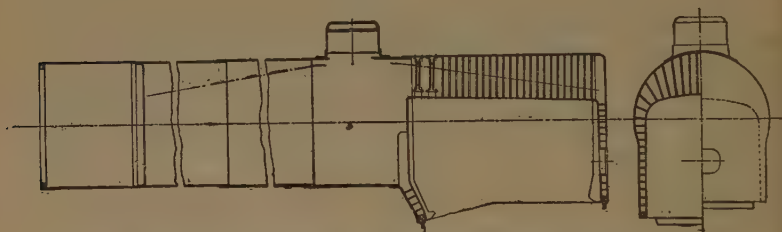

Fig. 27. Showing Fire Box with Radial Sling Stays.
A. Like the old ones, but with wider grate, as in Fig. 27, with 3,000 square feet of heating surface.
A. There is an inner and an outer shell, forming a double bottomless box of boiler-plate, and having in front, through both walls, a doorway closed by a furnace-door. The bottom is formed by the grate, upon which the fuel is placed, and below which is the ash-pan which receives the ashes that fall through the grate, and which is supplied with suitable dampers to regulate the amount of air admitted under the grate. The top of the fire-box inner wall is usually flat, and is called the crown-sheet; the top of the outer shell or wall over this is sometimes convex, sometimes flat—usually the former. (See Figs. 27, 28, 29, 30, and 31).